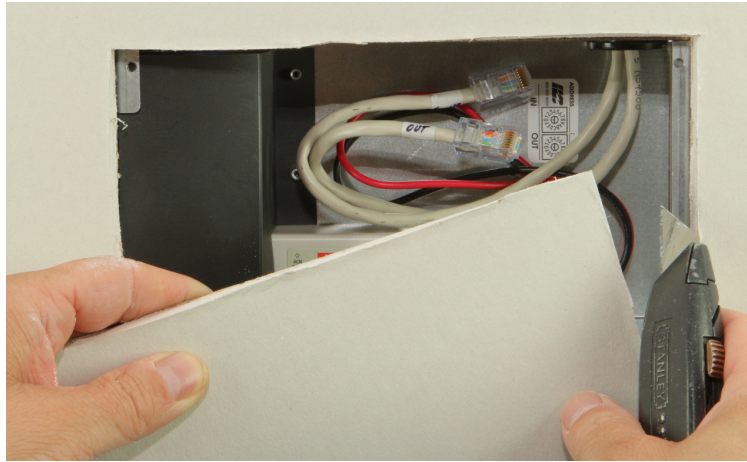

Figure 6 Wall Covering Opening
10. Install wall covering and cut out the opening for the touch screen. **DO NOT cut out the hole to the outside of the enclosure.** Cut to Inside edge top & bottom and 1/4" beyond the left & right inside edge exposing the two mounting screw holes left and right. Do not install the touch screen assembly until the wall is finished to prevent paint or dust damage to the electronics. Refer to Figures 6, 7, and 8.